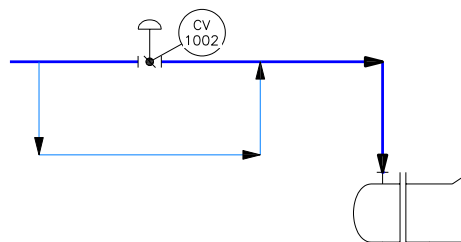

Figure 2-62 Location of the control valve on the steam inlet line
7. Similarly, place a control valve on the steam inlet pipe of the heat exchanger, as shown in Figure 2-62. Note that you need to specify **Butterfly Valve** and **Diaphragm Actuator** as the valve body and actuator, respectively.